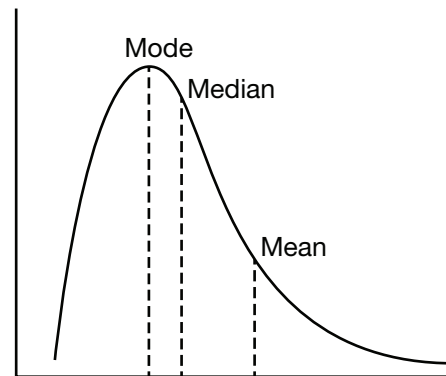

Figure 1. Mode vs. median and mean fragment lengths
- DNA fragmented with the KAPA Frag Kit typically yields profiles with a slightly positive skew. The mode (most frequent) fragment length referenced throughout this document corresponds to the “top of the peak” (as shown in Figure 1), and can differ significantly from the median (middle) or mean (average) fragment length.